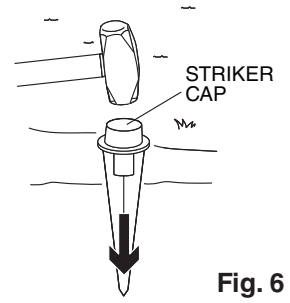

Fig. 6
1. Install ground stakes. Loosen hard soil and remove stones and rocks before attempting to install ground stakes. Use provided striker cap to protect stakes when hammering. After installation, stake flange should be flush with grade level. (Fig. 6)